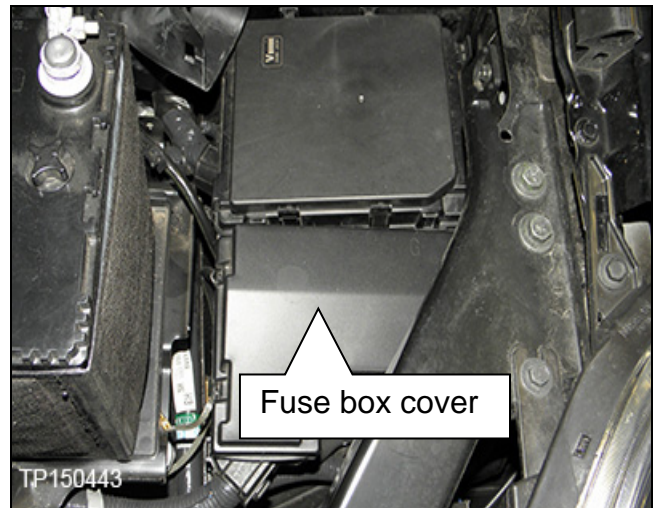

Figure 2
3. Remove “fuse and fusible link box” (fuse box) cover (Figure 2).